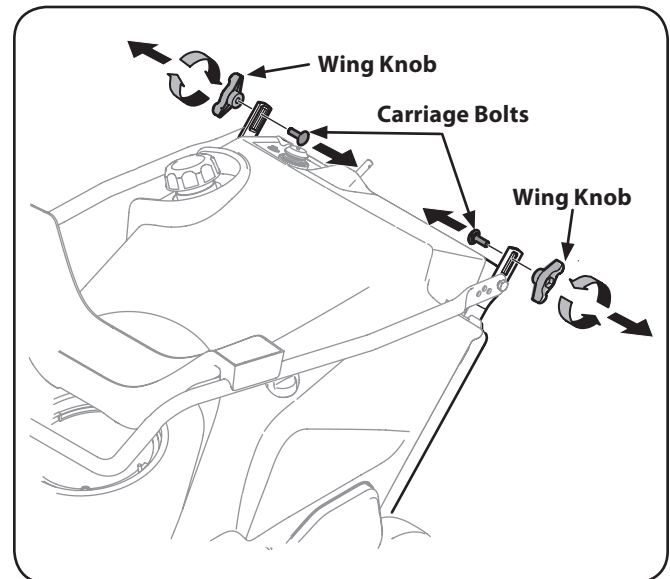

Figure 3-1
1. Remove the wing knob and carriage bolt from the top of the lower handle. See Figure 3-1. It is not necessary to remove the shoulder screw and flange lock nut below the wing knob and carriage bolt.